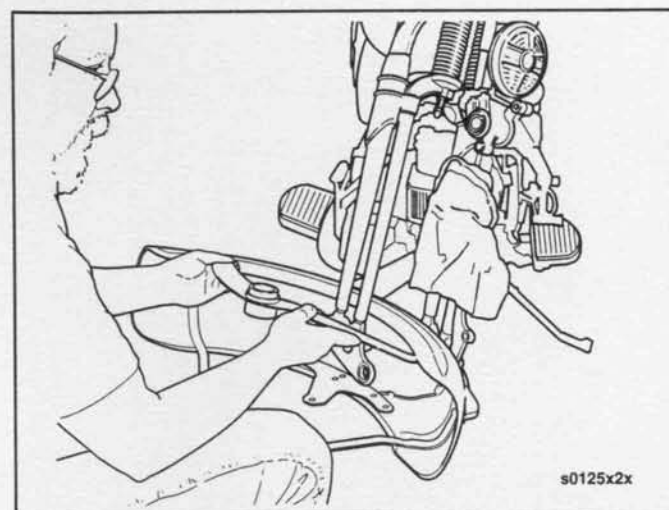

Figure 2-96. Front Fender Removal- FLSTS
- b. See Figure 2-96. Rotate fender putting fork between fender bracket and fender and remove fender.
- a. See Figure 2-96. Install fender by keeping right fork leg between fender and struts and rotating fender towards the left leg position.